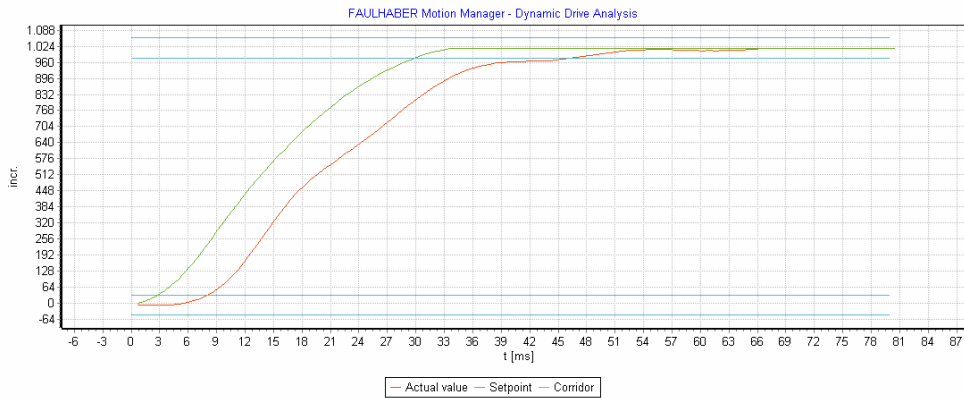

Figure 13: Dynamic positioning
- Figure 13 shows a well-tuned system without overshoot